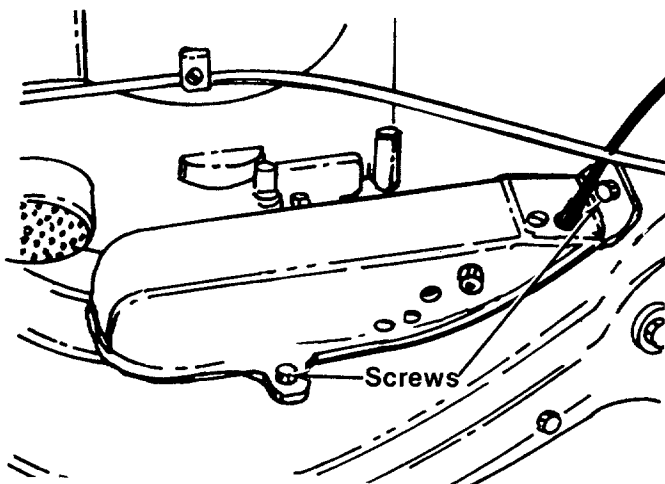

FIGURE 26.
3. Remove the three screws which hold the belt guard (and idler assembly). See figure 26.